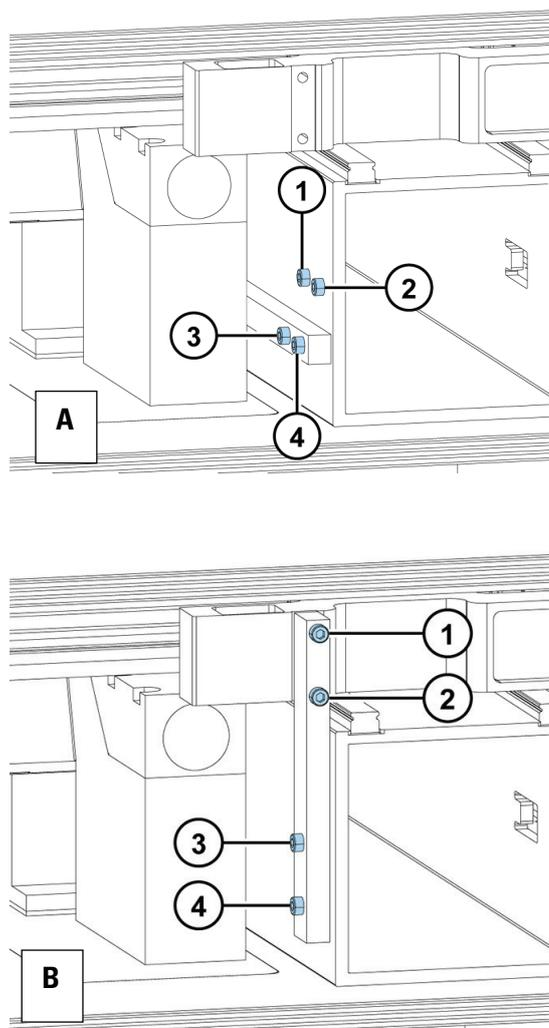

Figure 5–54 Transport lock released (A) and fastened (B) (screws 1–4 shown)
4. Remove the front cover by first pulling the two bolts, one on each side at the bottom, sideways, then turning the bottom of the cover 30° and finally by lifting it off according to Figure 5–54.
5. Remove the two screws marked 1 and 2 of the transport lock from their storage site on the track mechanism bar (Figure 5–54 A).
6. Remove the screw marked number 3 (Figure 5–54 A).
7. Loosen the screw marked number 4 of the transport lock slightly by using the hexagonal screwdriver supplied (Figure 5–54 A).
When you have loosened the screw number 4 so that the transport lock bar moves, turn the transport lock bar into a vertical position towards the front of the instrument (Figure 5–54 B). Pull the tray holder gently from inside the instrument so that you can fit the transport lock bar into its groove in the tray holder.
8. Refit the two screws marked 1 and 2 into the holes designated for them using the hexagonal screwdriver supplied (Figure 5–54 B).
9. Tighten the screws marked number 3 and 4 firmly once you have fastened the screws marked number 1 and 2 of the transport lock (Figure 5–54 B).
10. Replace the front cover by first inserting the two top door latches into place while at the same time turning the cover 30° and then snapping it shut (Figure 2–2 and Figure 5–45). Also close the dispenser sliding cover.